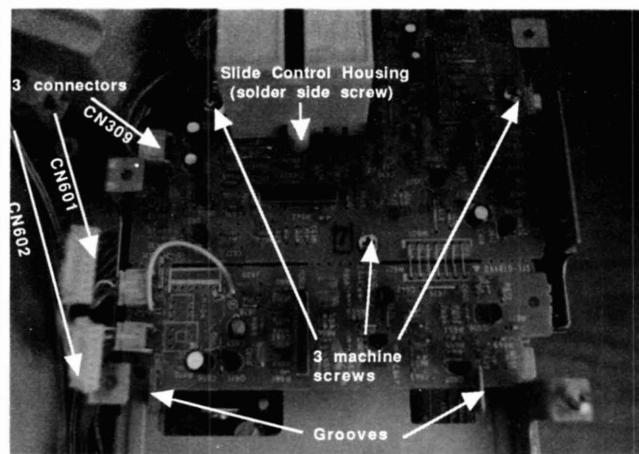
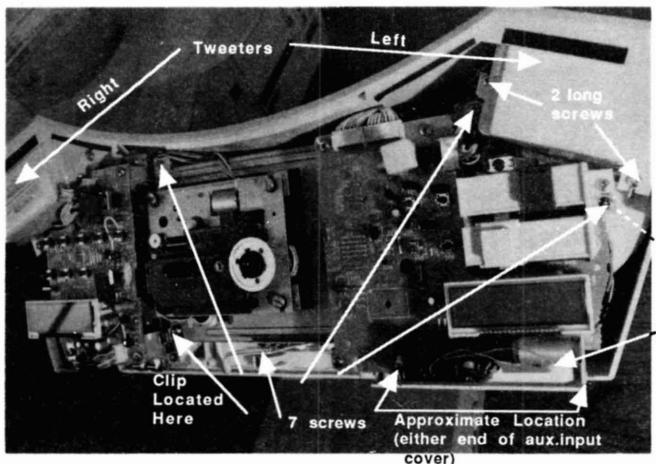

Figure 9
Figure 10
<p>B. Re-connect the wires to connectors CN306,307 and 310. These connectors are not interchangeable.</p> <p>C. Line up the PCB and shield with screw holes on the chassis. Make sure that the notched edge of the PCB is oriented correctly as illustrated.</p> <p>D. Secure PCB with 3 machine screws and 1 screw* (located at notched edge).</p> <p>25. EQ/Tone Control PCB Removal (Figure 9)</p> <p>A. Remove 3 machine screws which secure the PCB to metal chassis.</p> <p>NOTE: There is no need to remove the screw which secures the slide control housing to the metal bracket (not illustrated). However, the screw which secures the metal bracket to the unit must be removed (see Figure 10).</p> <p>B. Glue is applied to PCB in the area of the grooves. Trim away the glue with a sharp object.</p> <p>C. Slide the PCB out from under the grooves and away from the lip of the metal chassis.</p> <p>D. Disconnect the wires from 3 connectors.</p>	<p>E. The slide control housing must be removed to access the slide potentiometers. Remove the screw located on the solder side of the PCB. Squeeze the two catches and remove the housing (with attached metal bracket).</p> <p>26. EQ/Tone Control PCB Replacement (Figure 9)</p> <p>A. If the slide control housing was removed, replace as follows:</p> <p>I. Squeeze catches on each side of the housing and insert through the holes in the PCB. Make sure that the holes underneath the housing are aligned with the potentiometer shafts.</p> <p>II. Re-install the screw which attaches the housing to the solder side of the PCB.</p> <p>III. Re-install the screw which secures the metal bracket to the unit. (see Figure 10).</p> <p>B. Re-connect 3 connectors.</p> <p>NOTE: CN309 and CN601 are both 4 pin connectors. Make sure that the orange wire is re-installed on connector CN309.</p> <p>C. Slide the PCB under the grooves in the metal chassis.</p> <p>D. Re-apply glue to the area where the grooves secure the PCB.</p> <p>E. Re-install the 3 machine screws which secure the PCB.</p>
27.CD Main PCB Removal (Figures 10 and 11)
- A. Remove 7 screws which attach PCB to unit. One screw has a metal clip attached to it. See Figure 10 for location.
- B. Remove the auxiliary input cover by sliding out and away from the jacks (Figure 10).
28. CD Main PCB Replacement (Figures 10 and 11)
E. Re-install 7 screws which attach PCB and metal chassis to unit (Figure 10).
35. Right Tweeter Removal (Figures 10,14 and 15)
A. Remove 2 long screws that hold the tweeter enclosure in place (Figure 10).
36. Right Tweeter Replacement (Figures 10,14 and 15)
E. Align the screw holes of the unit and chassis and secure the tweeter enclosure with 2 long screws (Figure 10).
37. Left Tweeter Removal (Figures 10 and 15)
A. To access the left tweeter, remove the 7 screws which attach the CD Main PCB module to the unit (Figure 10).
B. Remove 2 long screws which attach the tweeter enclosure to the unit (Figure 10).
38. Left Tweeter Replacement (Figures 10 and 15)
- E.** Align the screw holes of the enclosure and unit and secure with 2 long screws (Figure 10).
- F.** Replace the CD Main PCB by installing 7 screws. Make sure auxiliary input cover is in place before securing (Figure 10).